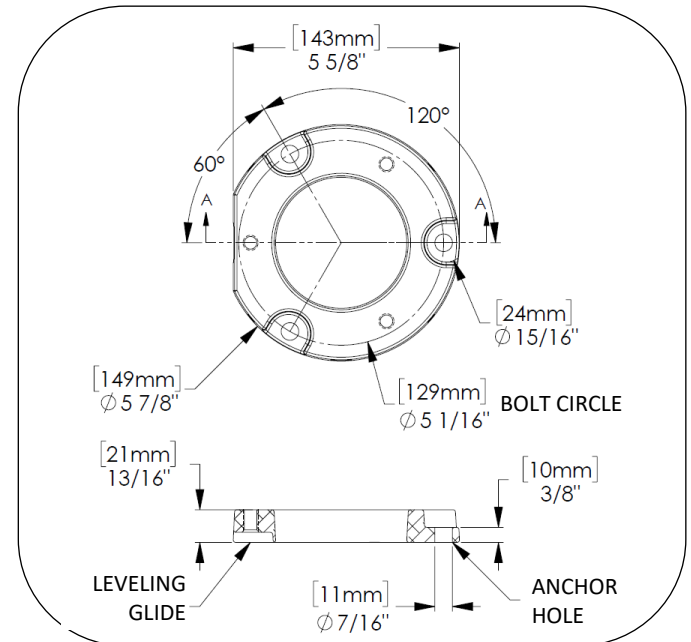

FIG. 2 – BASE PLATE DETAIL
5. Set base plate in position and install anchors. Adjust leveling glides as necessary, see Fig. 2.